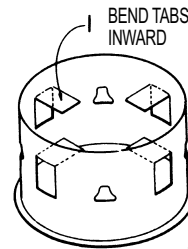

Figure 1
2. Bend the four rectangular tabs inward on AmeriVent Bucket. This will center vent pipe and maintain a 1-inch minimum clearance to outside wall of AmeriVent Bucket. See **Figure 1**.